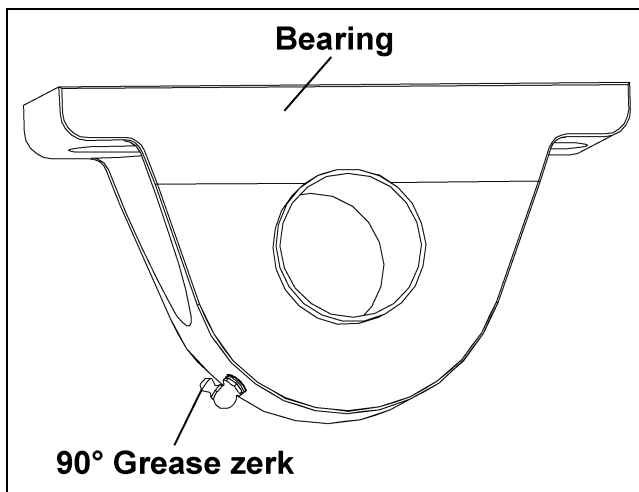

Figure 5Q
- Replace standard grease zerks with 90° grease zerks on both bearings. Make sure the 90° grease zerk is turned as shown in Figure 5Q, so the zerks are accessible from the center of the tractor drive stand.
- D. Attach Bottom Chain Guard Weldment to Tractor Drive Stand using 3/8" x 1-1/4" HHCS bolts, 3/8" split lock washers, and 3/8" hex nuts. *(See Figure 5Q on Page 34.)*